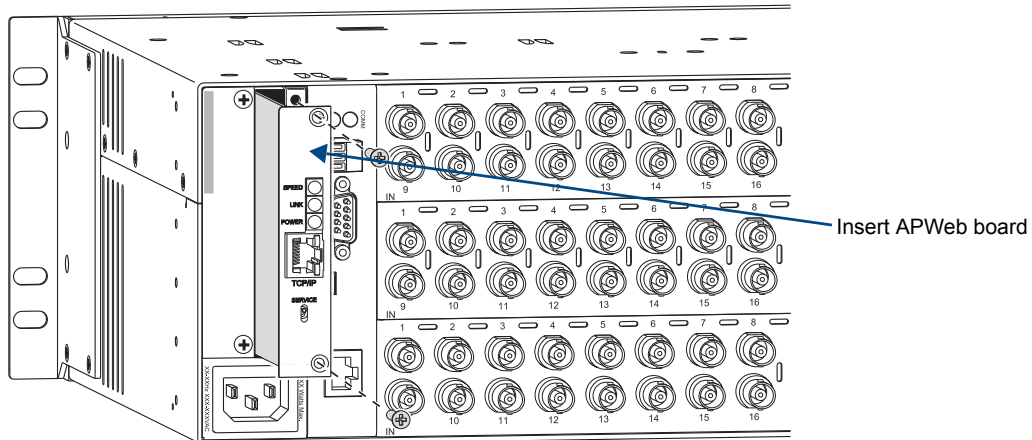

FIG. 29 Insert APWeb board into expansion slot and replace screws
4. Insert the APWeb board into the empty expansion slot, aligning the board between the upper and lower guides inside the slot, pushing until the board is flush with the rear of the enclosure (FIG. 29).